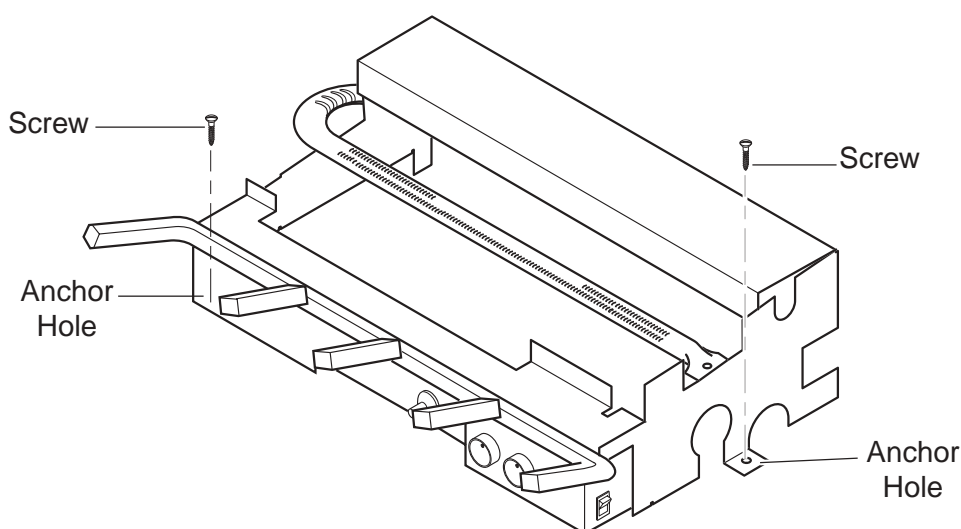

Figure 12 - Securing Heater to Floor of Fireplace/Firebox
2. Anchor holes are located inside the back right corner and inside front left corner. After centering the grate correctly, mark the hole positions on the fireplace/firebox floor. Drill two (2) $\frac{5}{32}$ " diameter holes approximately $1\frac{1}{2}$ " deep.
3. Anchor the grate to the fireplace/firebox floor using the screws provided. *Refer to Figure 12.*